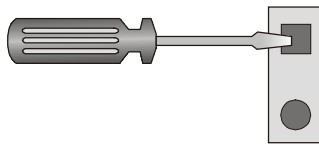

Figure 2-3 Connecting the Line – Step 1
1. Insert the screwdriver into a square hole (see *Figure 2-3*).